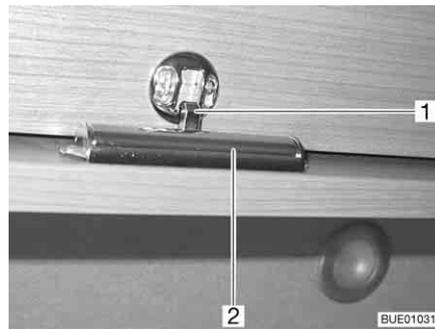

Fig. 67 Furniture flap with push button
- Press inner part of the lock. The push button jumps out (Fig. 67).